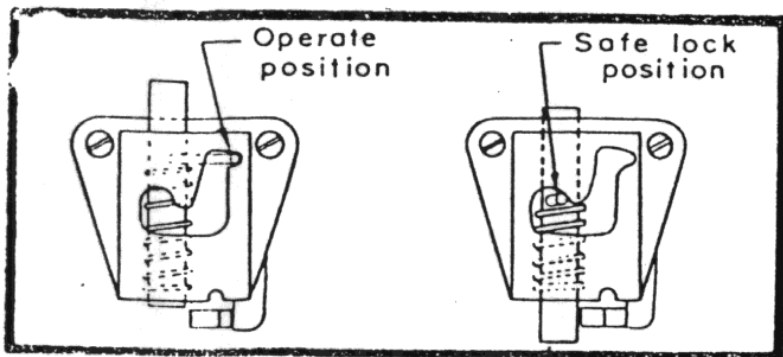

Figure 3
3. Lock safety discharge interlock to prevent accidental discharge of stored energy mechanism. (Figure 3).
10. Release discharge safety interlock. (Figure 3). NOTE: To avoid possible injury *NEVER* handle or touch any moveable part of the breaker when the stored energy mechanism is charged, without first applying safety interlock. Press close button on front cover. Breaker will close. Depress red trip button (located in charging handle) slowly. Breaker will open before trip button reaches its extreme stop.
1. Charge stored energy mechanism and lock discharge safety interlock (Figure 3).